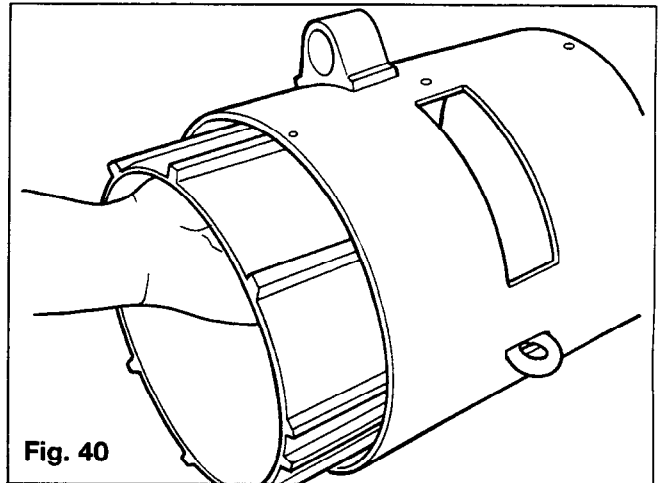

Fig. 40
12. If your unit has a housing liner, remove it at this time (Figure 40).